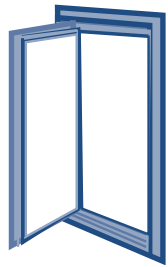

Figure 23: Crank-style casement window.
- **Casement windows** consist of a single sash, hinged at one side, (Figure 23). Most open to the outside and are operated with cranks or levers. *Awning* windows are similar to casement windows, but are generally hinged at the top. To weatherstrip casement or awning windows, open the sash as widely as possible and attach the weatherstripping material around the inside of the frame in such a way that it will be slightly compressed when the sash is in the closed position. The weatherstripping should be stretched tight before it is fixed in place to prevent wrinkles from forming, thus allowing air to infiltrate. Rolled vinyl with a metal backing is a good option for casement or awning windows, due to its durability and ease of installation.